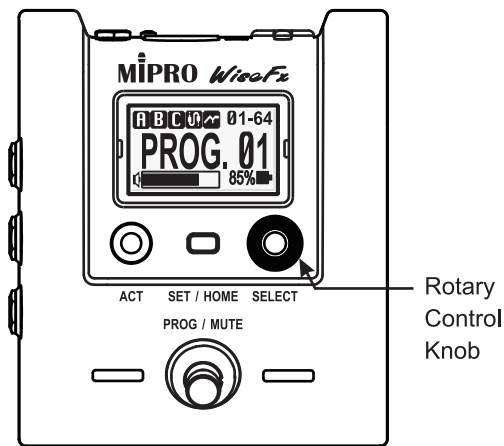

Fig. 10
(A) A navigation control for programming selection, Fig. 10:
- (1) At the primary screen, turn right or left to select prestored programs.
- (2) At the primary screen, press SET / HOME **4** to enter function setting screen.
- (3) At the primary screen, turn the knob to choose a selection, press again to activate the current selection. Rotate to choose a new selection, and press the knob to store. Press SET / HOME button again to return to primary screen.